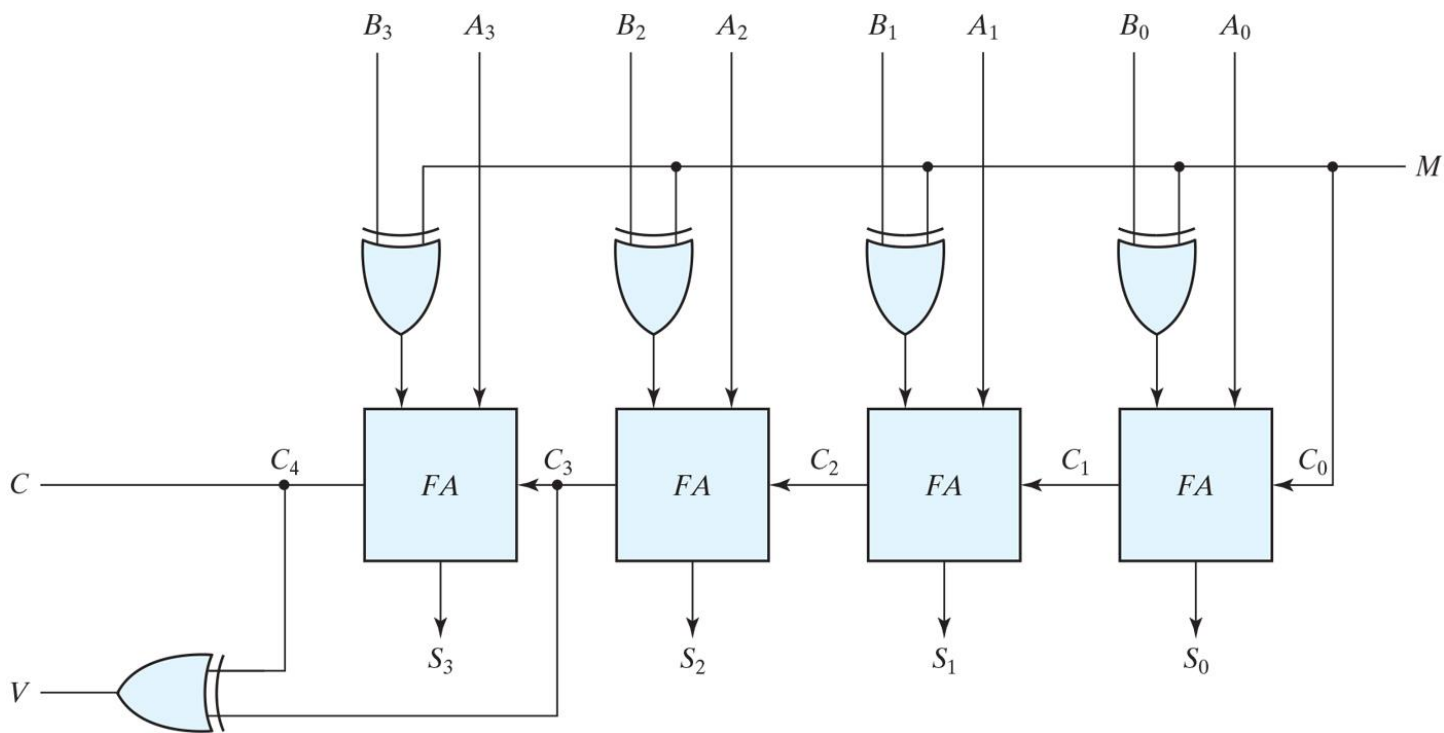

Figure 4.13 Four-bit Adder/Subtractor
- Should follow figure 4.13 of the Mano textbook